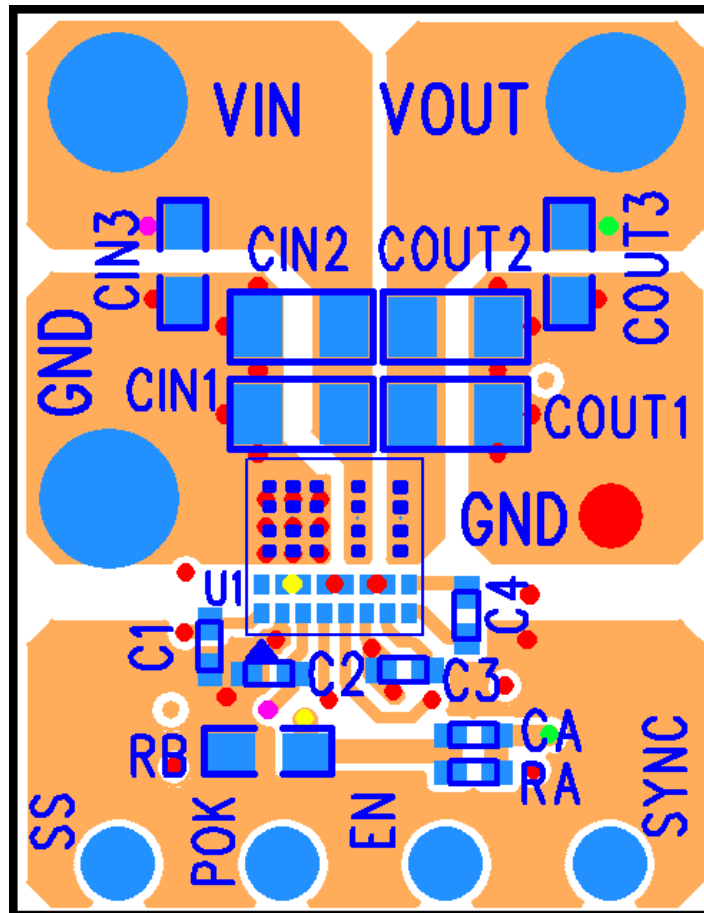

Figure 11: Top PCB Layer Critical Components and Copper for Minimum Footprint (Top View)
Figure 11 shows critical components and layer 1 traces of a recommended minimum footprint EN6338QI layout. EN and other small signal pins need to be connected and routed according to specific customer application. Visit the Enpirion Power Solutions website at [www.intel.com/enpirion](http://www.intel.com/enpirion) for more information regarding layout. Please refer to this Figure 11 while reading the layout recommendations in this section.
**Recommendation 3:** The ground thermal pad underneath the device must be connected to the system ground plane through as many vias as possible. The drill diameter of the vias should be 0.33mm, and the vias must have at least 1-oz. copper plating on the inside wall, making the finished hole size around 0.2mm to 0.26mm. Do not use thermal reliefs or spokes to connect the vias to the ground plane. This connection provides the path for heat dissipation from the converter. Please see Figure 11.
plane. Put the vias under the capacitors along the edge of the GND copper closest to the Voltage copper. Please see Figure 11. These vias connect the input/output filter capacitors to the GND plane, and help reduce parasitic inductances in the input and output current loops. If the vias cannot be placed under  $C_{IN}$  and  $C_{OUT}$ , then put them just outside the capacitors along the GND slit separating the two components. Do not use thermal reliefs or spokes to connect these vias to the ground plane.
**Recommendation 5:** AVIN is the power supply for the internal small-signal control circuits. It should be connected to the input voltage at a quiet point. In Figure 11 this connection is made at the input capacitor furthest from the PVIN pin and on the input source side. Avoid connecting AVIN near the PVIN pin even though it is the same node as the input ripple is higher there.
**Recommendation 7:** Keep  $R_A$ ,  $C_A$ ,  $R_C$  and  $R_B$  close to the VFB pin (see Figure 11). The VFB pin is a high-impedance, sensitive node. Keep the trace to this pin as short as possible. Whenever possible, connect  $R_B$  directly to the AGND pin instead of going through the GND plane. The AGND should connect to the PGND at a single point from the AGND pin to the PGND plane on the 2nd layer.